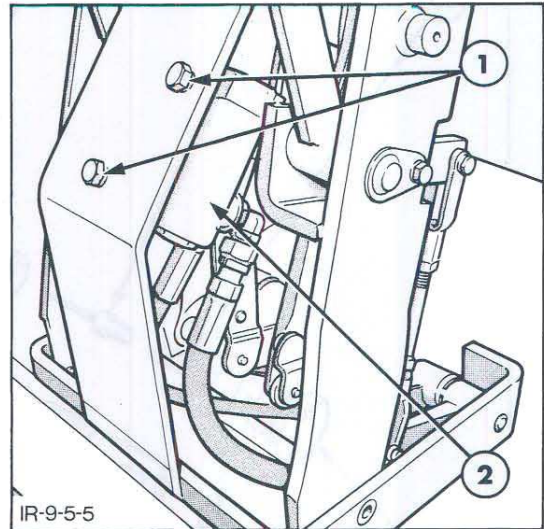

Figure 5
7. Remove the two bolts securing the valve to the control console, Figure 5, and withdraw the valve.